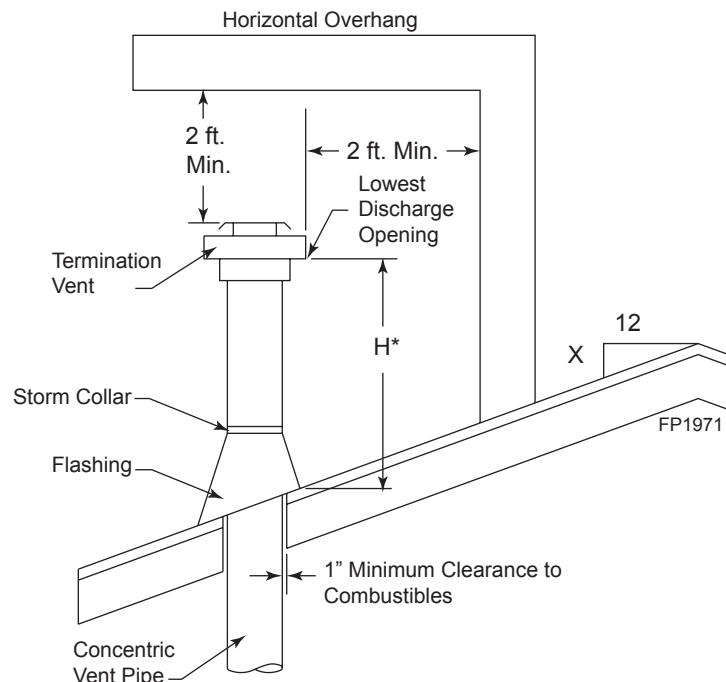

Figure 28 -
- For the minimum height of the vent above the highest point of penetration through the roof refer to Page 21, *Figure 28*.
10. Add additional vent lengths for proper height. *Figure 28*